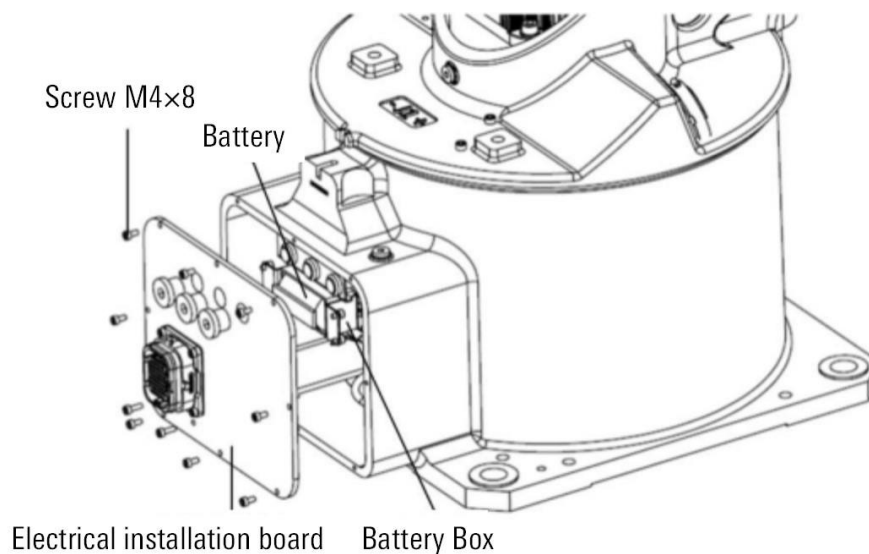

Figure 12-3 Replace battery
- Step3. Remove the electrical installation board and disassemble the battery box, as shown in Figure 12-3 above.